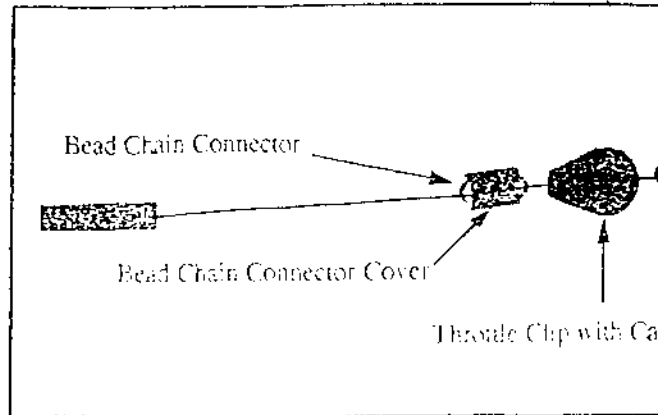

FIGURE 17A
2. Slide a Bead Chain Connector Cover over the cruise cable, then attach the Bead Chain Connector to the cable. Attach the Throttle Clip with Cable to the Bead Chain Connector. And slide the Connector Cover over the Bead Chain Connector. (Figure 17A)